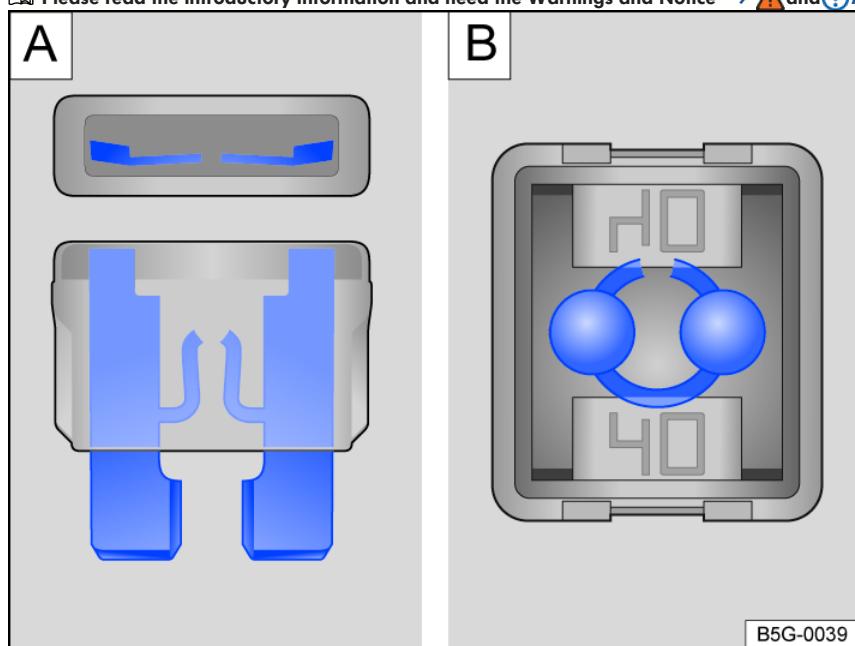

Fig. 183 Blown fuse (general example).
- A blown *flat connector fuse* (ATO®, MINI®) has metal strips that have burned through, which you can see through the transparent housing from above and from the side fig. 183 .
- A blown *block fuse* (JCASE®) has metal strips that have burned through, which you can see through the transparent housing from above fig. 183 .